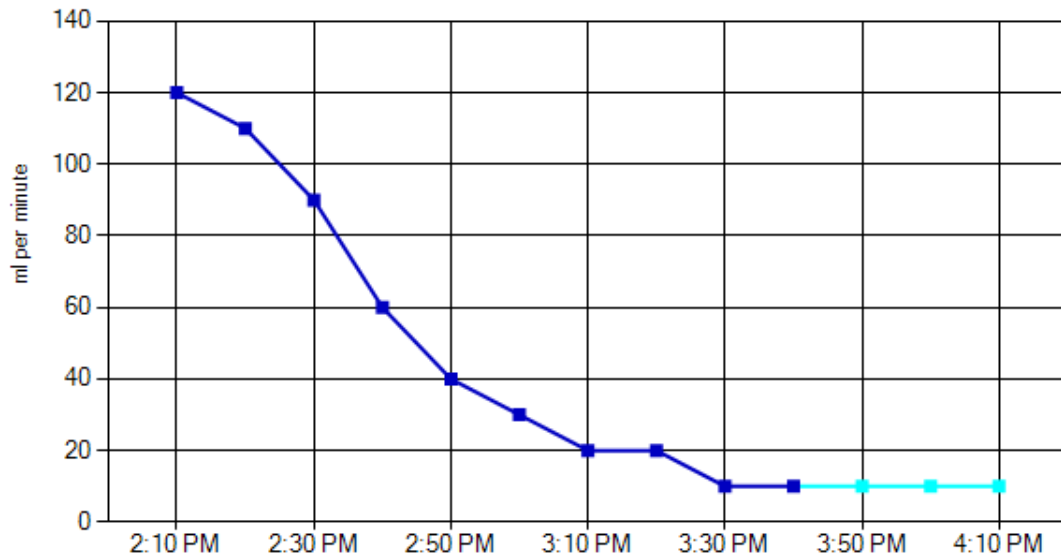

Fig. 21. Water Consumption Rate against time. The cyan points represent steady flow rate (Q).
In the Steady Water Consumption Rate stage (Fig. 21), the steady “Water Consumption Rate” is equivalent to the soil Steady Flow Rate (Q) or Soil-Water Steady Infiltration Rate which is the key parameter to calculate saturated hydraulic conductivity.